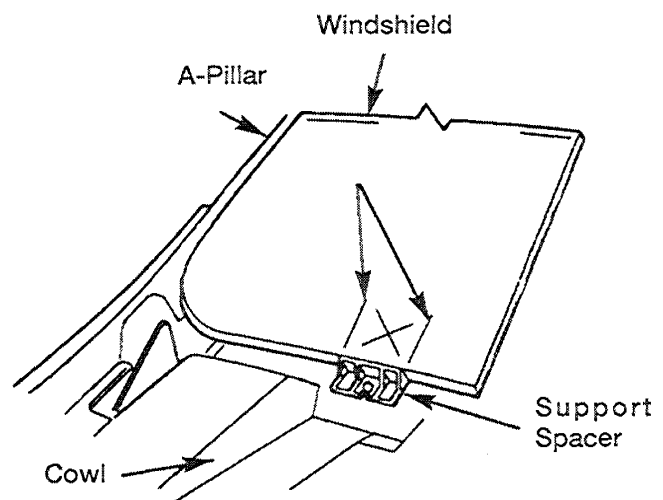

Fig. 3 Center Windshield and Mark at Support Spacers
1. Place replacement windshield into windshield opening, and position glass in the center of the opening against the support spacers. Mark the glass at the support spacers with a grease pencil or pieces of masking tape and ink pen to use as a reference for installation. Remove replacement windshield from windshield opening (Fig. 3).